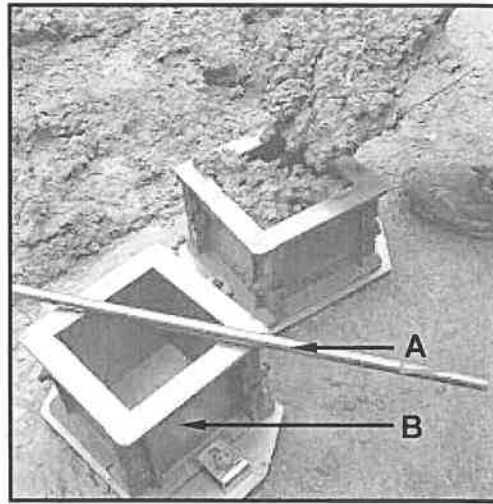

FIGURE 4.8
- 4.8 FIGURE 4.8 below shows equipment that is used to test concrete on a construction site. Study FIGURE 4.8 below and answer the questions that follow.
- 4.8.1 Name the test used in FIGURE 4.8. (1)